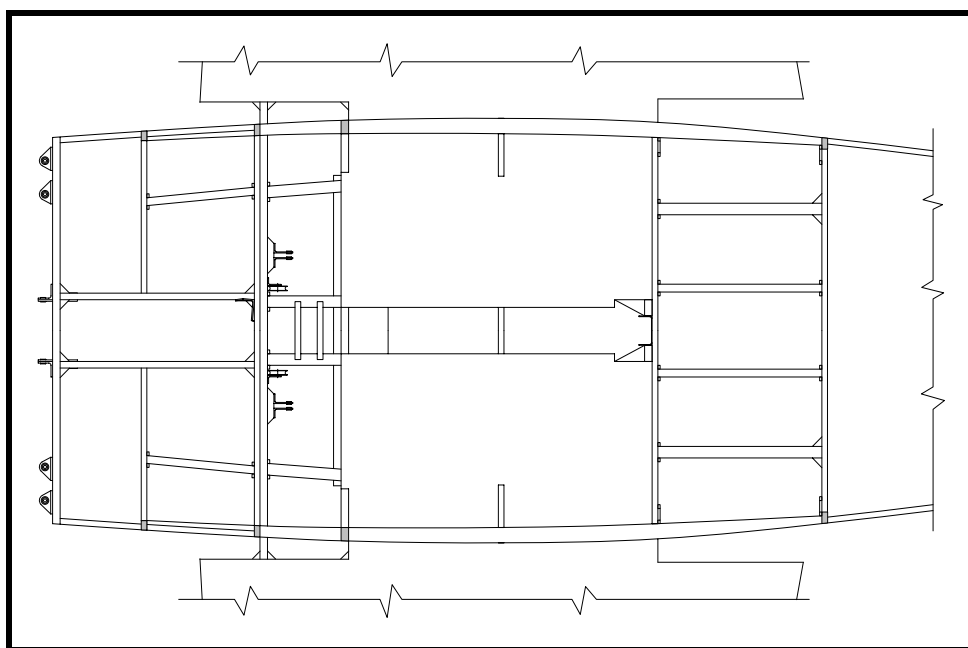

Figure 16
- ❑ Install the luggage compartment flooring support at B.L. 315. Because the aft end butts against the cross member of frame No. 7, the best way to make the joint is to install a 25mm corner block on each side and glue a plywood gusset on the bottom. See Figure 16.